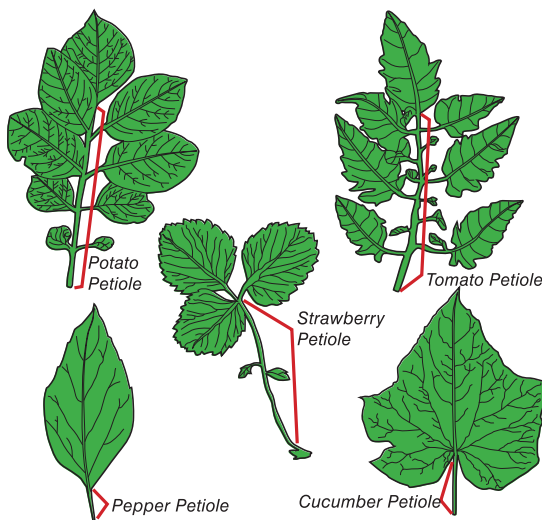

Figure 1: Leaves and petioles of some vegetable crops
1. Collect the petioles (leaf stems) of about 20 most-recently-matured leaves—those leaves that have reached maximum size and have changed from a juvenile light green color to a dark green color. Refer to Figure 1 to help you identify petioles of some vegetable crops. There are exceptions however—for example, the roots of onions are used to determine the nitrate levels. Refer to Application Note: Rapid In-Field Determination of Nitrogen in Onions.